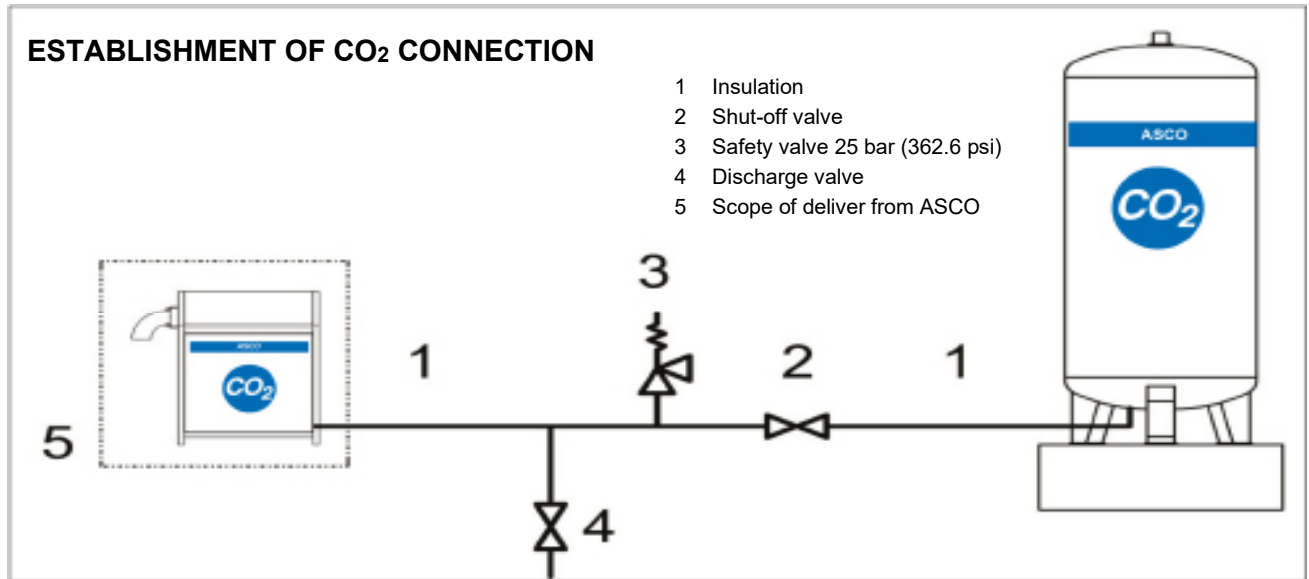

Fig. 14
- The connection to the pelletizer has a 1" female thread fitting (fig. 14, 1).
- The waste gas line has a 3" female thread fitting (fig. 14, 3).